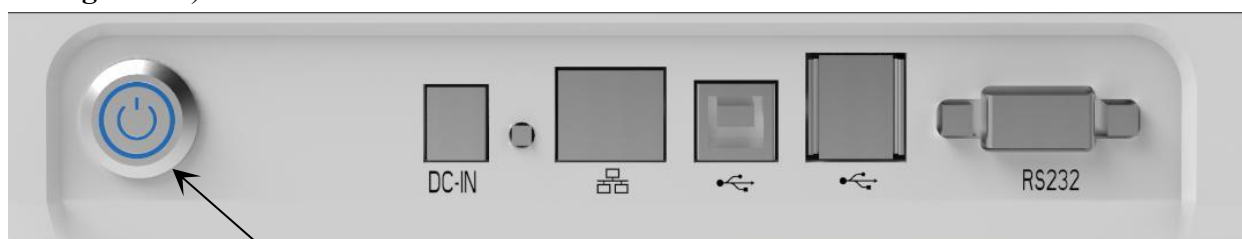

Fig 5.1
V.1.1 Press and hold **Power ON/OFF Switch** about 3 seconds of **Immunofluorescence Analyzer**. (See **Figure 5.1**)